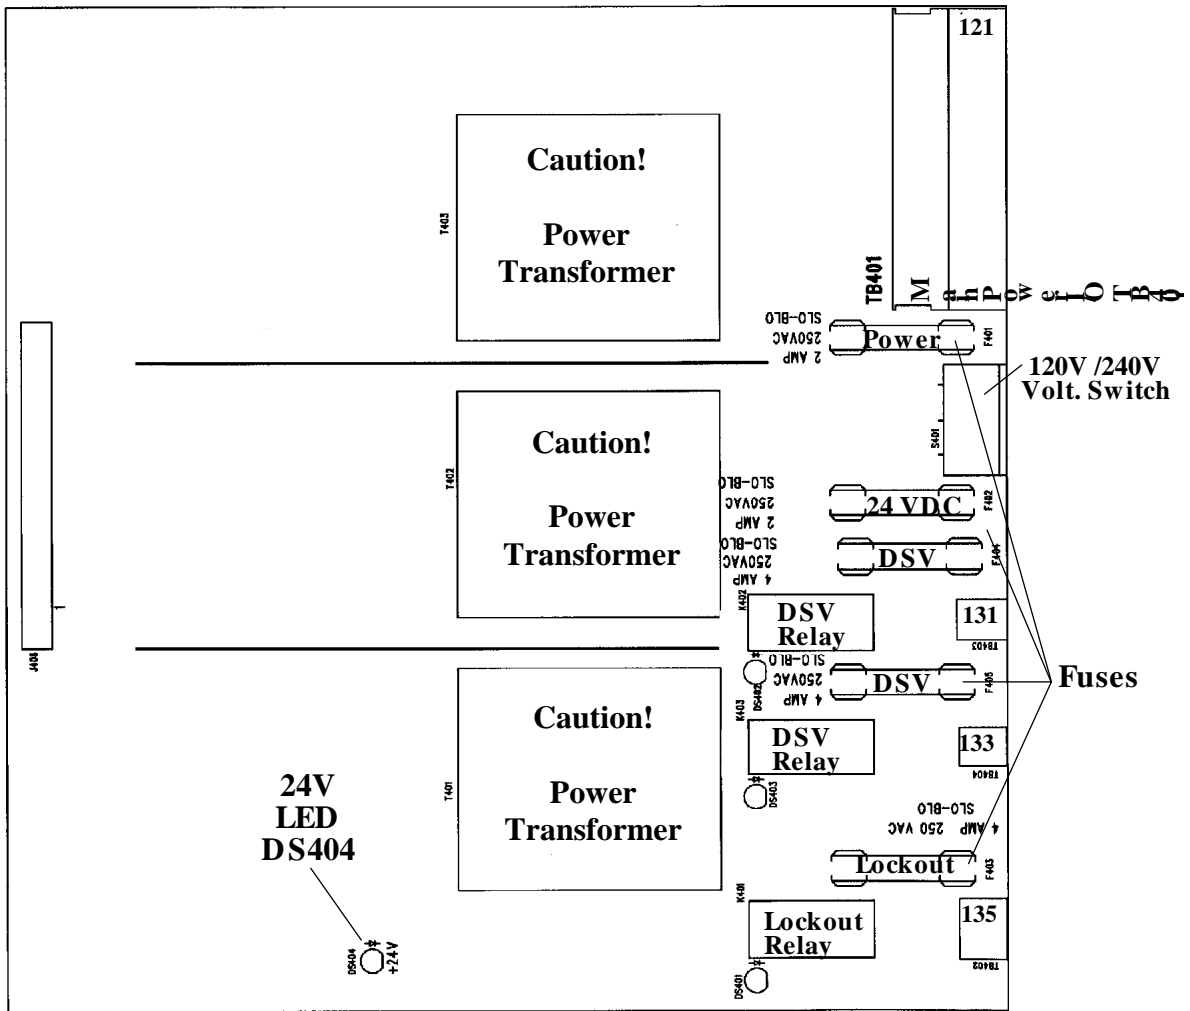

Figure 2-6b. WPC power supply boardlayout important components shown and labeled
5. To make ground connections, refer to the wiring schematics illustrated in Figure 4 (for Herion DSV) or Figure 6 (for Ross). Also refer to the power supply board layout (Figure 2-6b).